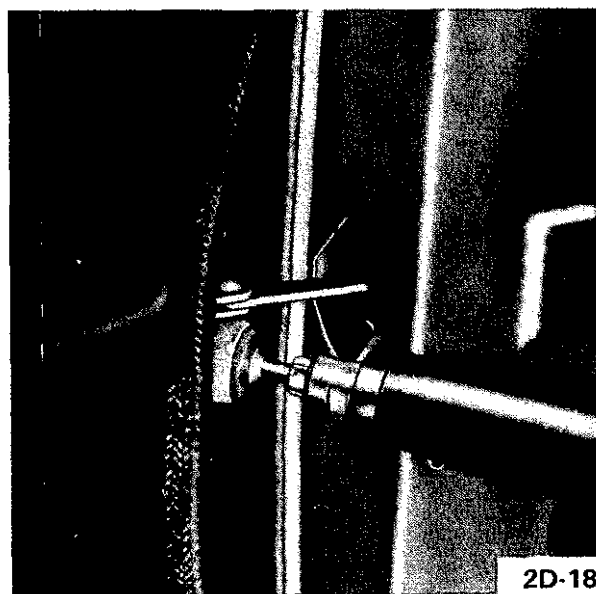

Figure 2D-18 Grinding Peen Off Of Link Pin
3. Button in new weatherstrip in the door area and push it in the metal profile in the area of the window frame. See Figure 2D-19.